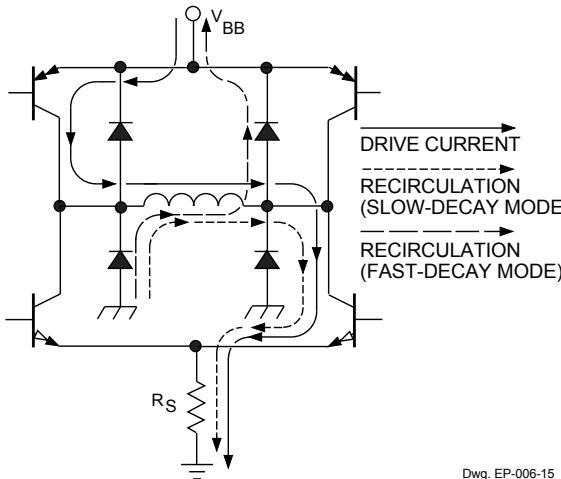
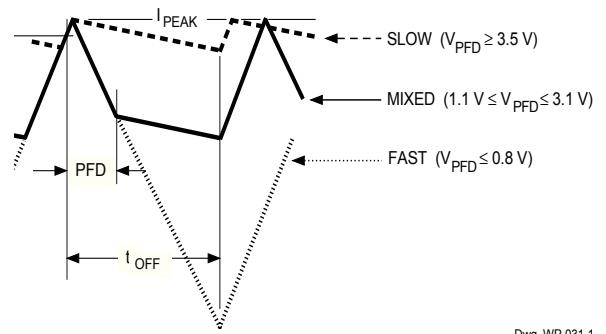

Figure 1 — Load-Current Paths
Figure 2 — Current-Decay Waveforms
**Internal PWM Current Control.** Each motor driver contains an internal fixed off-time PWM current-control circuit that limits the load current to a desired value ( $I_{TRIP}$ ). Initially, a diagonal pair of source and sink transistors are enabled and current flows through the motor winding and  $R_S$  (figure 1). When the voltage across the sense resistor equals the DAC output voltage the current-sense comparator resets the PWM latch,
**Slow Current-Decay Mode.** When  $V_{PFD} \geq 3.5$  V, the device is in slow current-decay mode (the source drivers are disabled when the load current reaches  $I_{TRIP}$ ). During the fixed off-time, the load inductance causes the current to recirculate through the motor winding, sink driver, ground clamp diode, and sense resistor (see figure 1). Slow-decay mode produces low ripple current for a given fixed off-time (see figure 2). Low ripple current is desirable because the average current in the motor winding is more nearly equal to the desired
**Fast Current-Decay Mode.** When  $V_{PFD} < 0.8$  V, the device is in fast current-decay mode (both the sink and source drivers are disabled when the load current reaches  $I_{TRIP}$ ). During the fixed off-time, the load inductance causes the current to flow from ground to the load supply via the motor winding, ground-clamp and flyback diodes (see figure 1). Because the full motor supply voltage is across the load during fast-decay recirculation, the rate of load current decay is rapid, producing a high ripple current for a given fixed off-time (see figure 2). This rapid rate of decay allows good current regulation to be maintained at the cost of decreased average current accuracy or increased driver and motor losses.
As in fast current-decay mode, mixed-decay starts with the sink and source drivers disabled after the load current reaches  $I_{TRIP}$ . When the voltage at the RC terminal decays to a value below  $V_{PFD}$ , the sink drivers are re-enabled, placing the device in slow current-decay mode for the remainder of the fixed off-time (figure 2). The percentage of fast decay (PFD) is user determined by  $V_{PFD}$  or two external resistors.